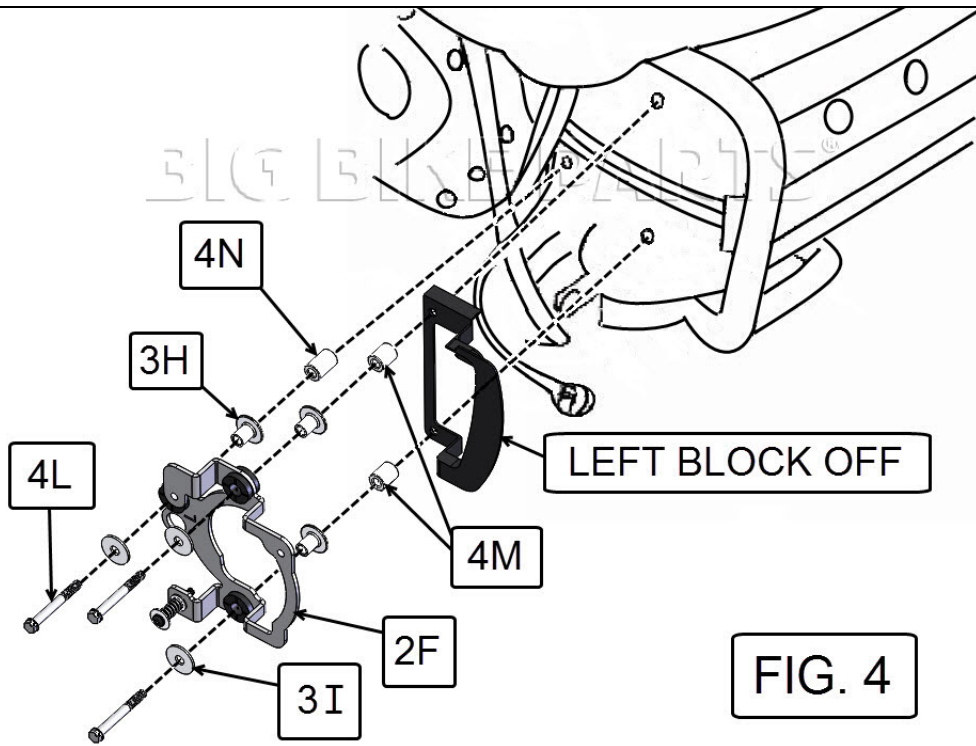

FIG. 4
- USING AN 8MM WRENCH REMOVE THE RIGHT AND LEFT BLOCK OFF THAT ARE SHOWN IN FIG. 3 AND FIG. 4. THE BOLTS WILL NOT BE REUSED.
- TAKE THE LEFT LIGHT MOUNT (2F) AND PUSH THREE SILVER FLANGE COLLARS (3H) INTO THE BACK OF THE LARGE RUBBER GROMMETS (2G) AS SHOWN IN FIG. 4.
- USING THE M6 X 50MM LONG HEX HEAD SCREWS (4L), M6 FLAT WASHERS (3I), 6MM X 16MM LONG SPACERS (4M) AND 6MM X 20MM LONG SPACER (4N) ASSEMBLY THE LEFT MOUNT TO THE BIKE. SEE FIG. 4. **NOTE: BE SURE TO REINSTALL THE LEFT BLOCK OFF AS SHOWN.**